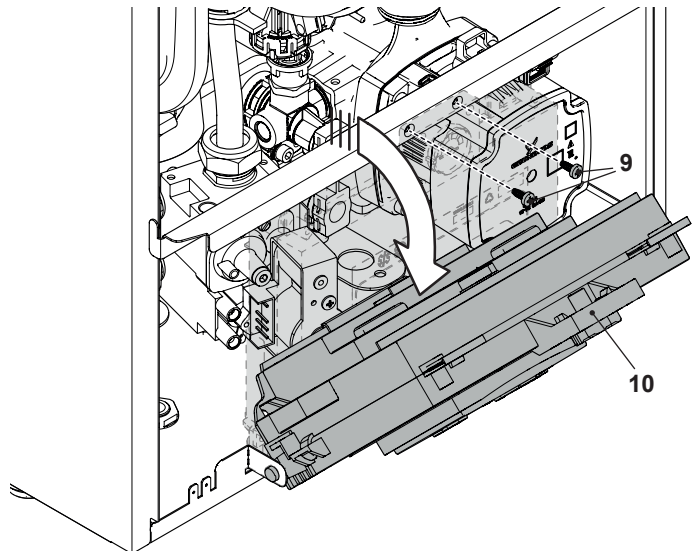

Figure 2.4
- 2 Unscrew the screws "9" and turn the control panel "10" (Figure 2.4).